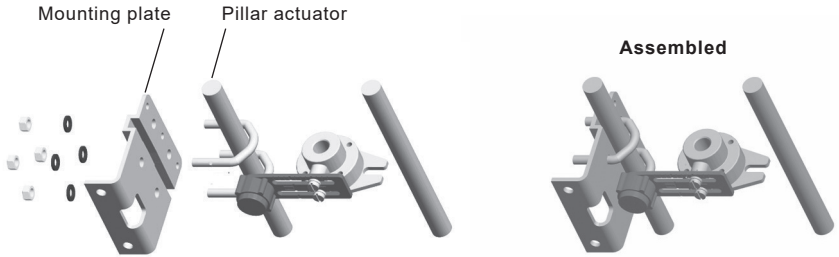
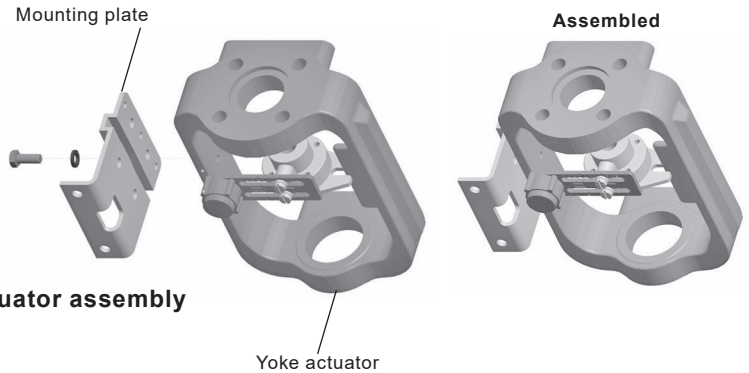

Fig. 29 Pillar actuator assembly
Fig. 30 Yoke actuator assembly
5.2.4 Loosely attach the positioner mounting plate to the actuator as shown in the following pictures: for the pillar actuator (Figure 29), and for the yoke actuator (Figure 30).
- 5.2.7** Adjust the vertical position of the SP500 positioner and mounting plate assembly, by sliding it up or down on the pillar style actuators, ensuring that the positioner is roughly centred on the actuator/valve stroke (Figure 30).